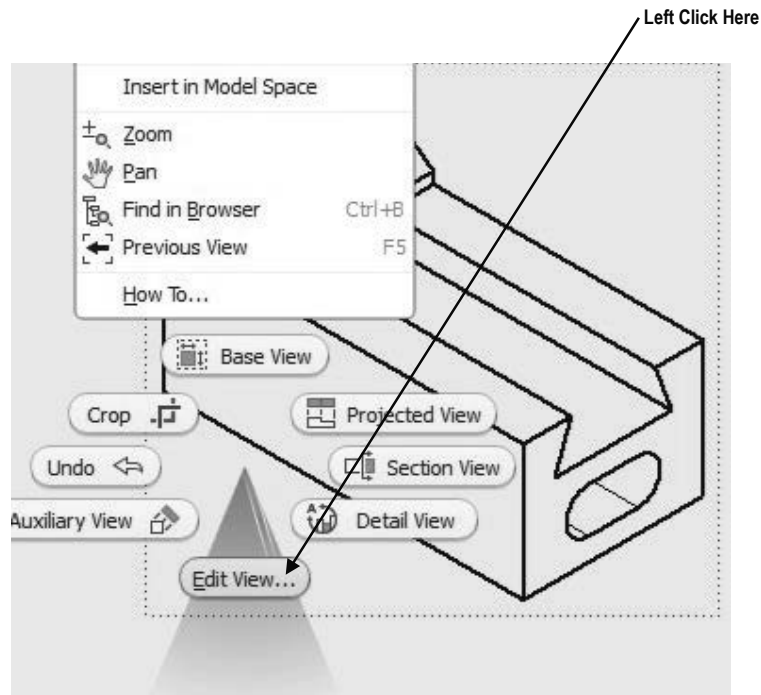

Figure 25
30. After the dots appear, right click once. A pop-up menu will appear. Left click on **Edit View** as shown in Figure 25.